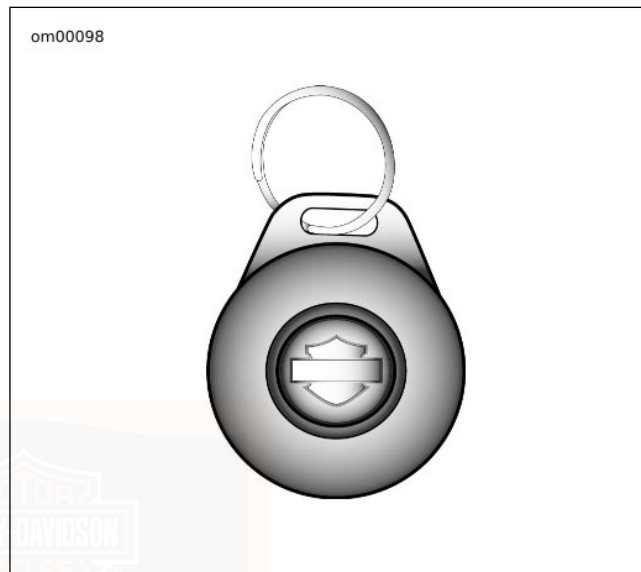

Figure 37. Key Fob
- **Remote-arming:** See Figure 37. Owners may enable security alarm and immobilization functions with a remote, personally carried transmitter. This transmitter is referred to as a key fob within this document.
See Figure 37. Hold down the key fob button until the system responds with two turn signal flashes and two chirps from optional siren. To assign a key fob to a motorcycle, refer to Table 23.
- **Remote disarming:** See Figure 37. Owners may disable security alarm and immobilization functions with a remote, personally carried transmitter. This transmitter is referred to as a key fob within this document.
See Figure 37. Quickly press the key fob button twice. The system will respond with one turn signal flash.